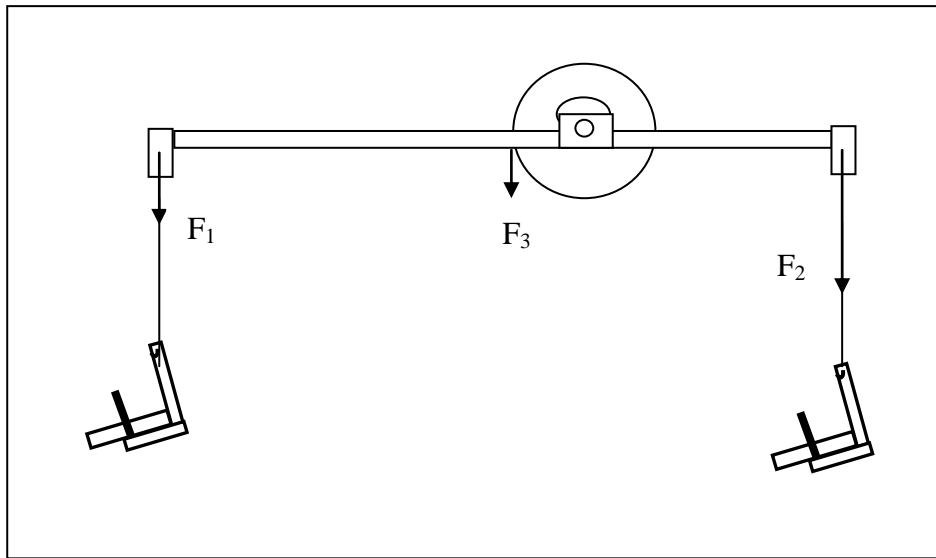

Figure 3.2: Torques and center of mass
- Attach a mass hanger to each end of the beam. Hang 50 grams from one hanger, and 100 grams from the other, as shown in Fig. 3.2. Now slide the beam through the pivot retainer until the beam and masses are balanced and the beam is horizontal. The pivot is now supporting the beam at center of the mass of the combined system (i.e. balance beam plus hanging masses).
3. Calculate the torques,  $\tau_1$ ,  $\tau_2$ , and  $\tau_3$  provided by the forces  $\vec{F}_1$ ,  $\vec{F}_2$ , and  $\vec{F}_3$  acting about the new pivot point, as shown in Fig.3.2. Be sure to indicate whether each torque is clockwise (cw) or counterclockwise (ccw).